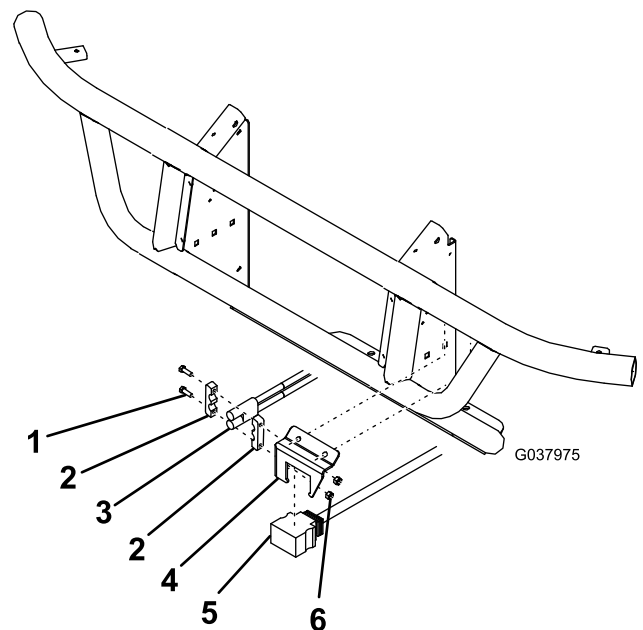

Figure 11
12. Mount the UTV-side, wire-harness plow connector to the left side of the top tube of the bumper using the control-harness mounting-bracket and 2 self-tapping bolts (Figure 11).
13. Mount the black and red power/ground connector to the control harness mounting bracket (Figure 11).